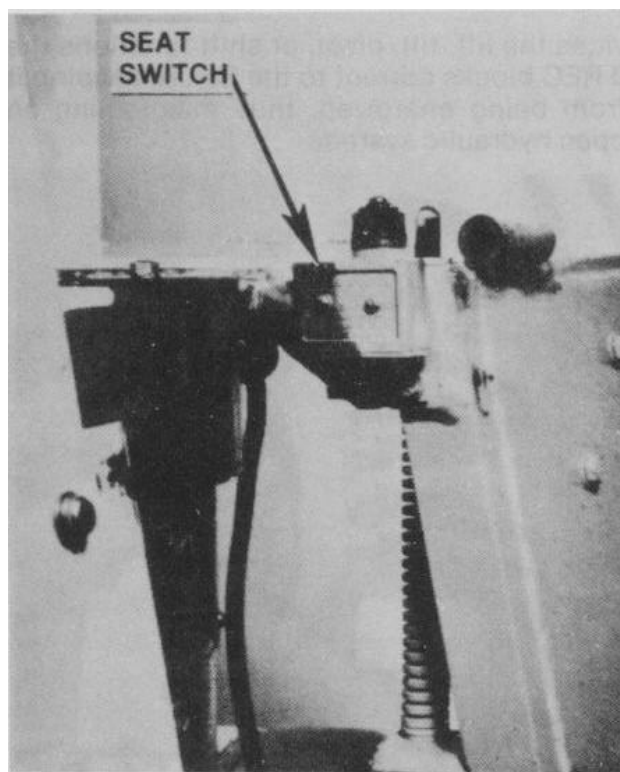

Figure 3-14
3.38 A faulty seat switch will prevent operation of the pump motor electrical control circuits(Fig. 3-14).